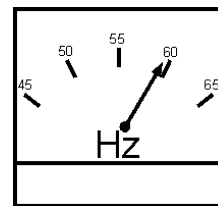

Figure 25. Frequency Meter (Hz)
10. The generator's frequency meter (Figure 25) displays the 60 cycle output frequency in HERTZ.